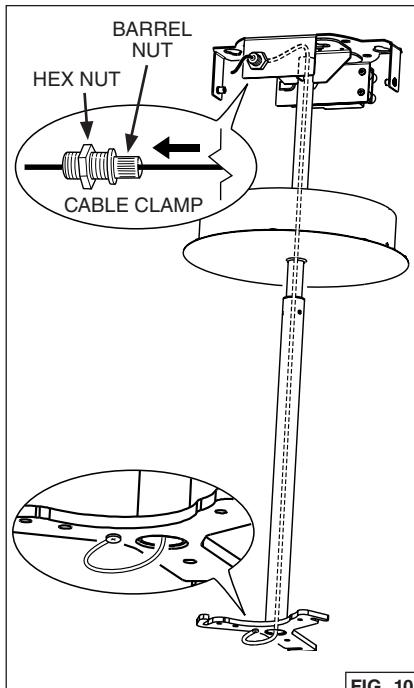

FIG. 10
5. Secure safety cable as shown. Fig 10.